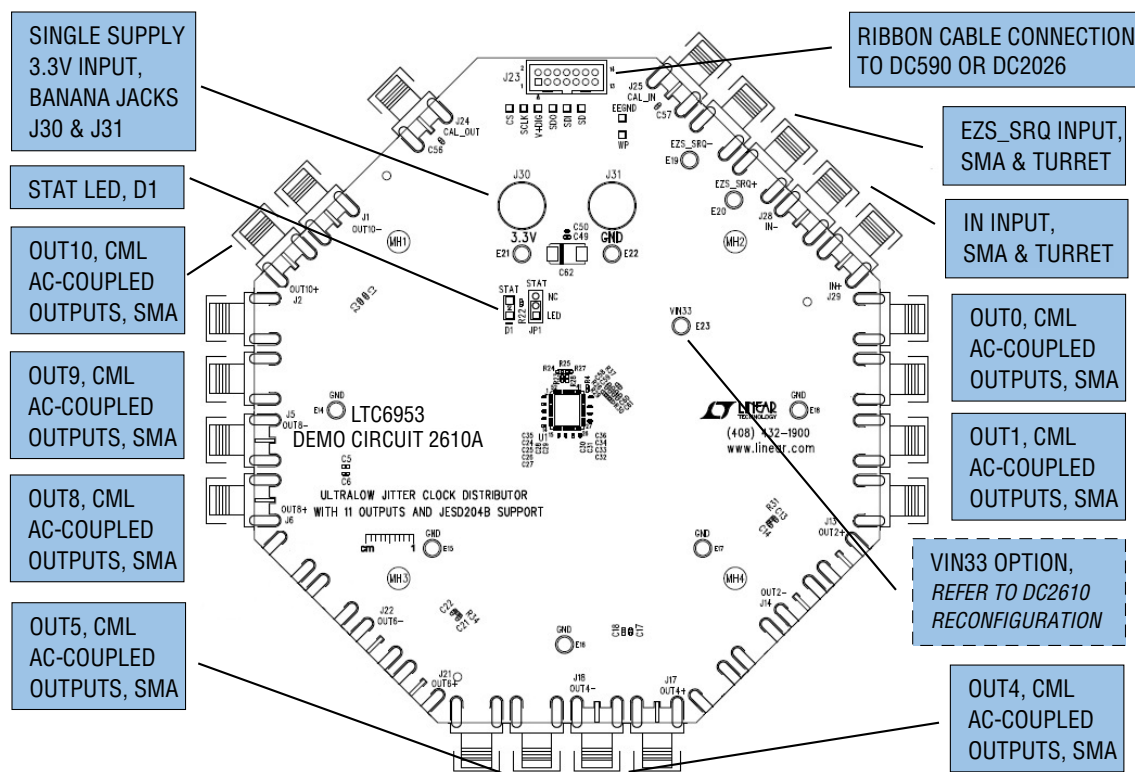

Figure 1. DC2610A Connections
1. Connect J30 and J31 to a power supply and apply power (see Figure 1 and the Typical DC2610A Requirements and Characteristics table).